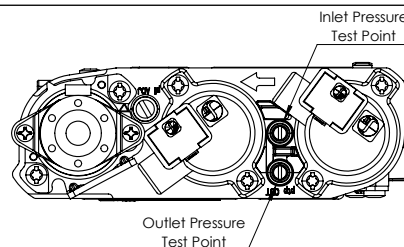

Figure 24 - Control Valve Pressure Test Points
1. With main shutoff valve open; loosen the screw at the Inlet Pressure Test Point on the Control Valve (Figure 24).